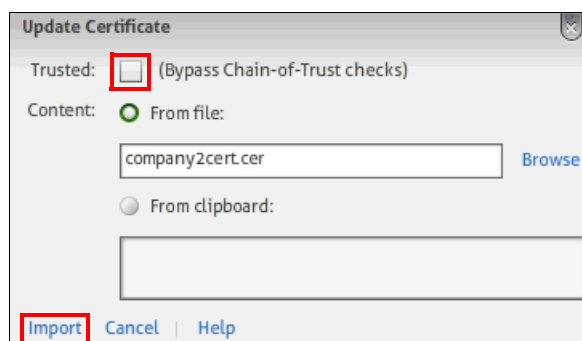

Figure 5-51 Update certificate
3. In the Update Certificate window, specify the name of the certificate file, and then click **Import**. If the signer certificate of the CA that signed your certificate is not in the Trust Store, you might have to select the **Bypass Chain-of-Trust checks** option, as shown in Figure 5-51.